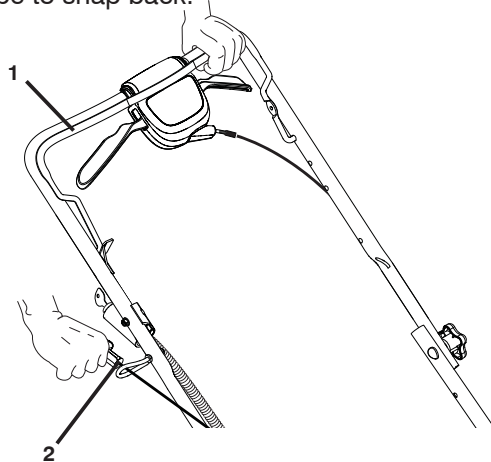

Figure 16
1. To start engine using the rope starter, hold operator presence control bar down to the handle and pull starter handle quickly (Figure 16). Do not allow starter rope to snap back.